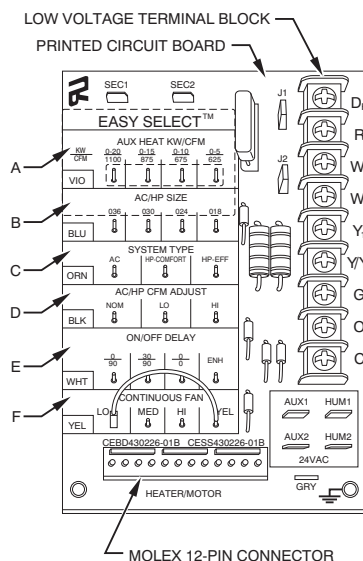

Fig. 17 - Detail of FV4C Printed-Circuit Board
Easy Select™ taps are used by the installer to configure a system. The ECM motor uses the selected taps to modify its operation to a pre-programmed table of airflows. (See Table 3 and 4.) Airflows are based on system size or mode of operation and those airflows are modified in response to other inputs such as the need for de-humidification. (See Fig. 17 and 18.)
heater operation. The factory selection is the largest heater range approved. (See Fig. 17, A as indicated.)
The factory setting for air conditioner or heat pump size is the largest unit meant for application with the model of fan coil purchased. Installer needs to select air conditioner or heat pump size to ensure that airflow delivered falls within proper range for the size unit installed. This applies to all operational modes with the exception of electric heat modes. (See Fig. 17, B as indicated.)
3. HP-EFF - Heat Pump Efficiency provides same airflow for heating and cooling modes to increase overall HP efficiency; approximately 350 CFM per ton. The factory setting is AC. (See Fig. 17, C as indicated.)
To provide airflow at rates described above, the AC/HP ADJUST select is factory set to the nominal (nom) tap. The adjust selections HI/LO will regulate airflow supplied for all operational modes, except non-heat pump heating modes. HI provides 15% airflow over nominal unit size selected and LO provides 10% airflow below nominal unit size selected. Adjust selection options are provided to adjust airflow supplied to meet individual installation needs for such things as noise, comfort, and humidity removal. (See Fig. 17, D as indicated.)
Four motor operation delay profiles are provided to customize and enhance system operation. (See Fig. 17, E as indicated)
3. HI speed - move connector of HI, 100% cooling mode airflow. (See Fig. 17, F as indicated.)
The following fan coil configuration is recommended for maximum heating and cooling/dehumidifying comfort: (See Fig. 17.)
7. If the fan coil is installed with Intelligent Heat Staging capable electric heaters, remove jumper J2. (See Fig. 17.)
The AUX and HUM terminals on the Easy Select Board are tied directly to the G terminal, and provide a 24-vac signal whenever the G terminal is energized. (See Fig. 17 and 18.) During Super Dehumidify and SuperComfort / Perfect Heat modes, the G signal is not present and the auxiliary terminals are not energized. If the installation includes the use of these operating modes, do not use these terminals to control accessories. See Electronic Air Cleaner and Humidifier sections for further information.